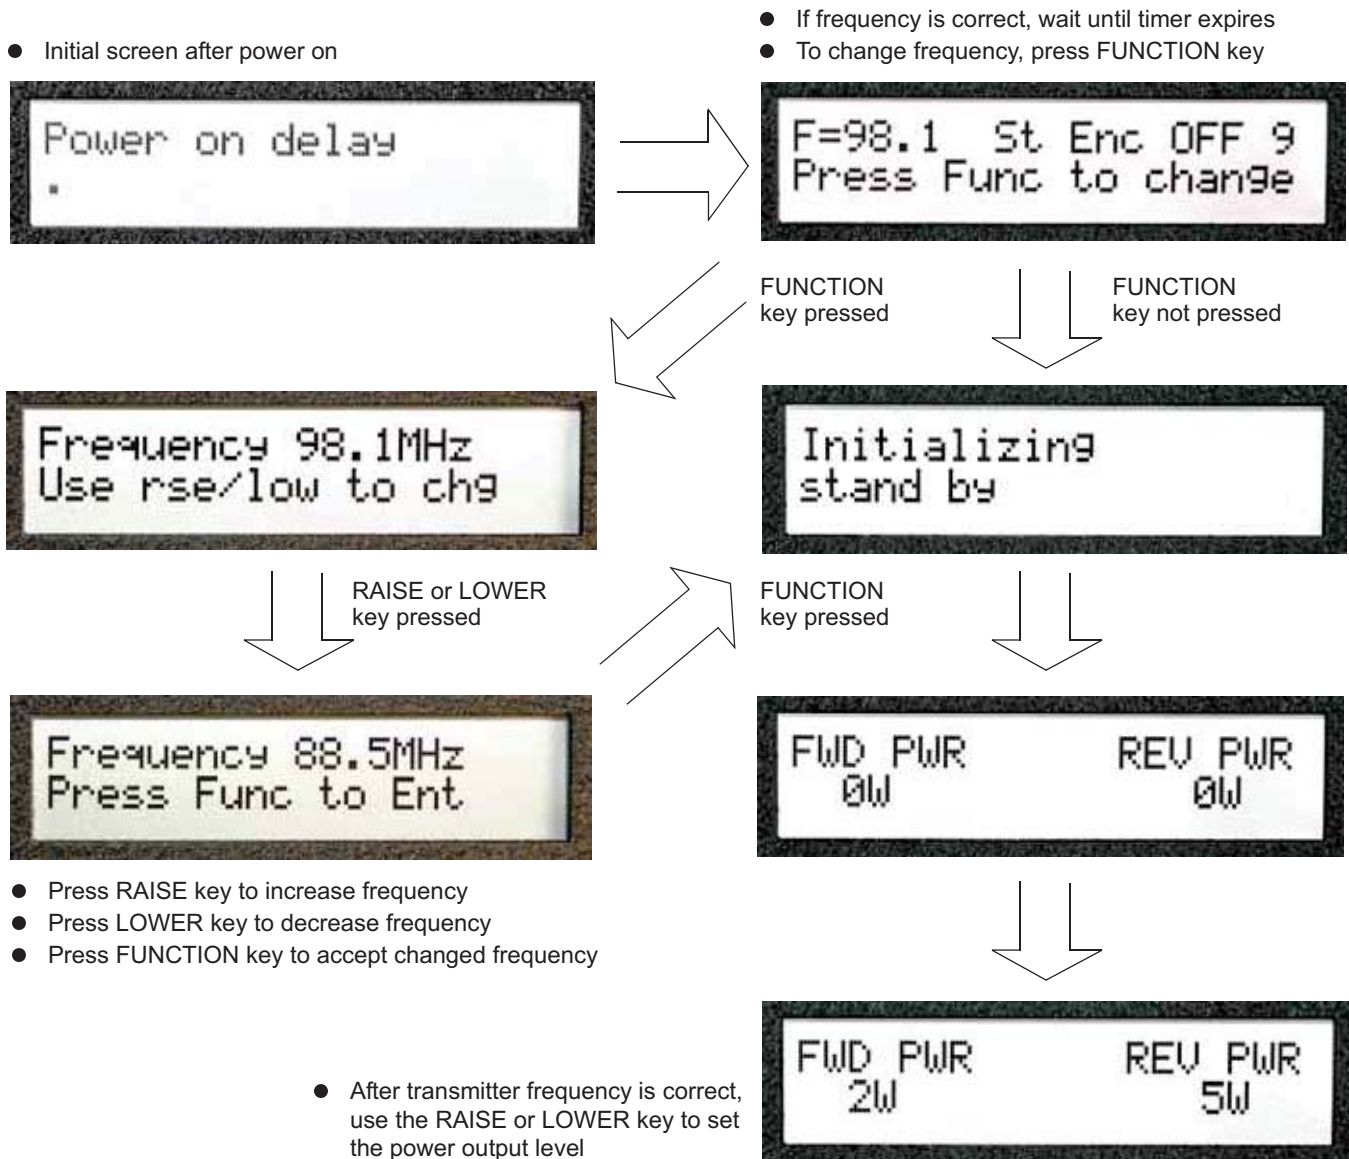

Figure 3-4. After the OPERATE Key is Pressed, the Startup Sequence Begins
2. After the OPERATE key is enabled, the LED display will show the initialization sequence and display the screens—in order—shown in *Figure 3-4*.